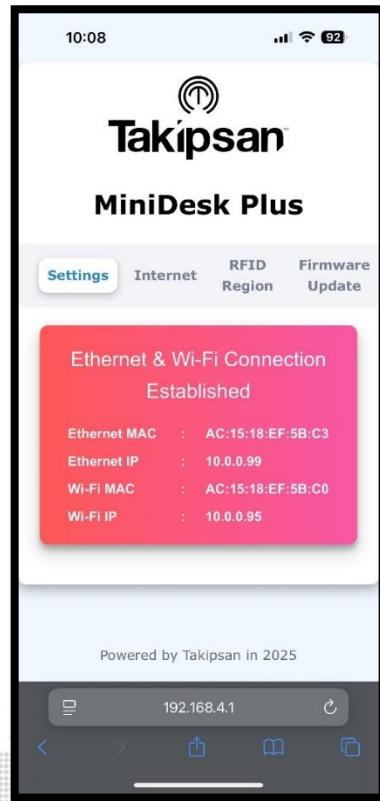

Figure-17
- If the device has already an internet connection, users can see MAC and IP addresses. (Figure-17)